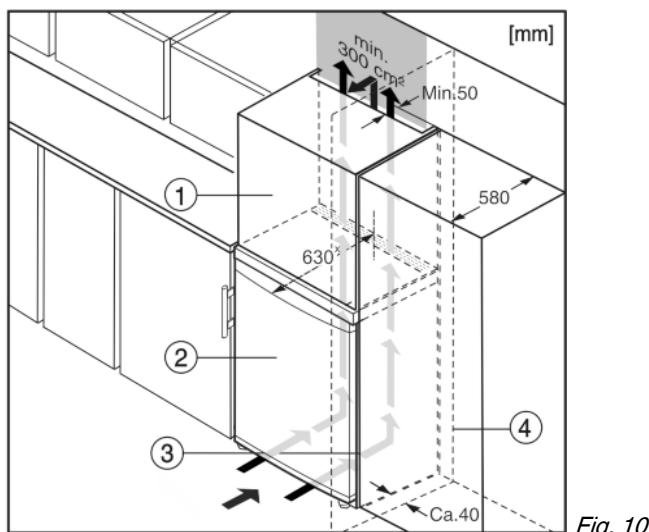

Fig. 10
- (1) Stack cabinet*
- (2) Appliance*
- (3) Kitchen cabinet*
- (4) Wall*
The appliance can be built into kitchen units. A top cupboard *Fig. 10 (2)* can be added above the appliance in order to bring the appliance *Fig. 10 (1)* up to the height of the fitted kitchen units.
When installing with kitchen units (max. depth 580 mm), the appliance can be positioned directly next to the kitchen cabinet *Fig. 10 (3)*. The appliance will project by 34 mm * at the sides and 50 mm * in the centre of the appliance in relation to the kitchen cabinet front.*
If the appliance is installed with the hinges next to a wall *Fig. 10 (4)*, the distance between appliance and wall has to be at least 40 mm. This corresponds to the projection of the handle when the door is open.*